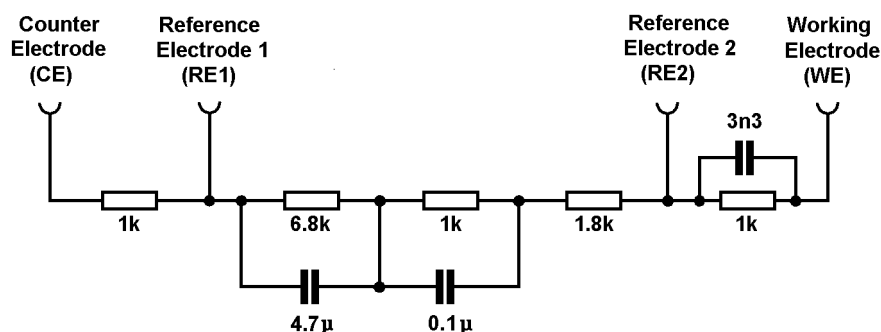

Fig 2.2 12861 test Module circuit.
1. Connect a 12861 Test Module to the cell terminals at the rear of the SI 1280. The test module circuit is shown in Figure 2.2.